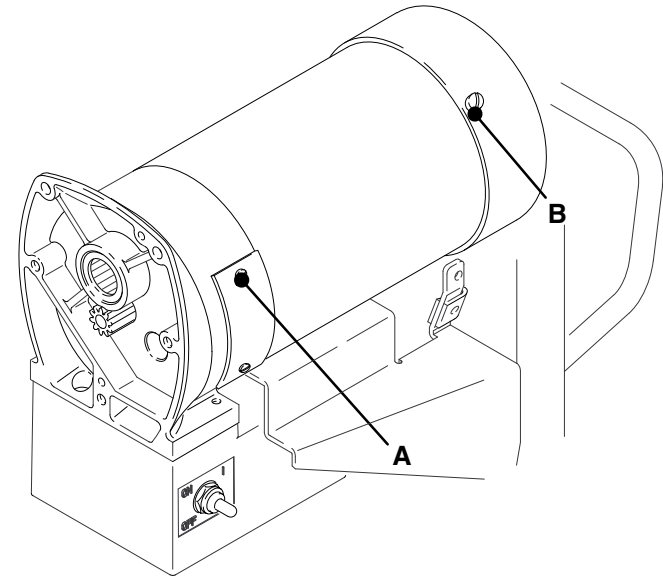

Fig. 13
Remove the motor brush inspection covers (A). See Fig. 13.
Remove the fan cover (B). See Fig.13.